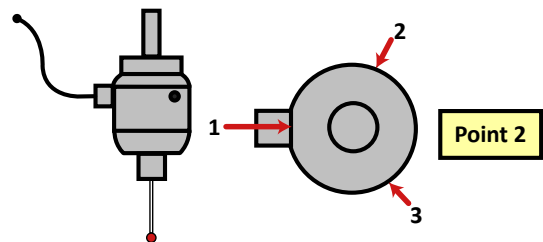

Figure 8.19: Cable Left Position
- Work using the Comp X/Y Probing screen. Zero the Point 1 DROs as it is not used. Select Point 2 and use the round yellow centre finding button to record the center of the alignment bore. This is illustrated in figure 8.19.